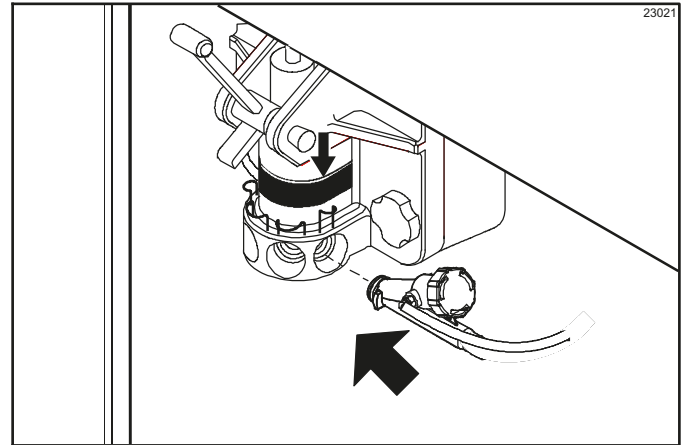

Figure 6-55
11. Raise a syrup valve retainer. Install the syrup valve. Push the syrup valve retainer down to hold the valve in place. Repeat this procedure for each syrup valve. (See Figure 6-55.)